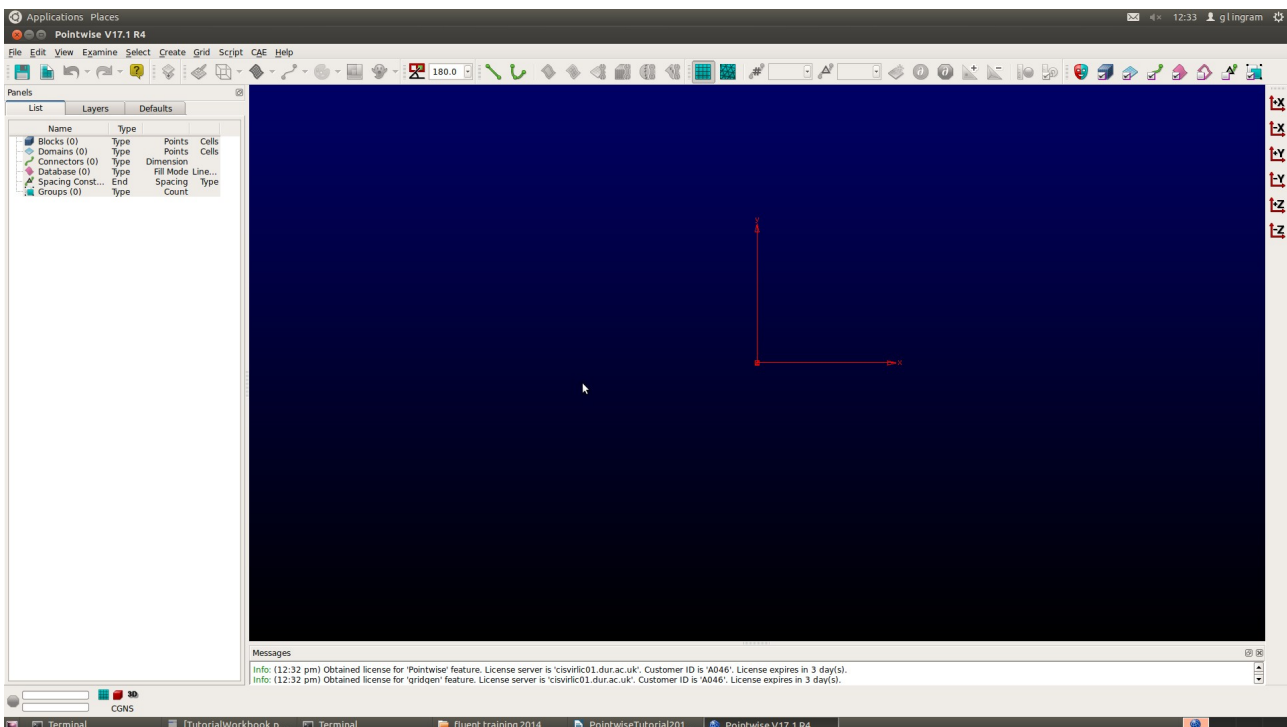

Figure 1: General View of Pointwise
- After a short while something like Figure 1 will pop up.